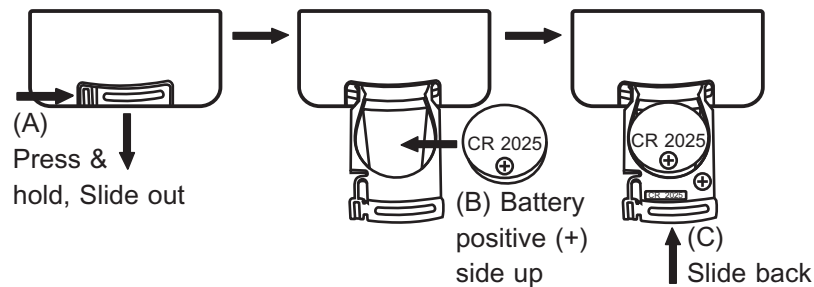

Fig. 30
4. Replacing USB Remote Battery, Fig. 30:
- (A) Press and hold the tenon on the bottom of the remote control and then slide out the battery tray.
- (B) Remove the old battery and insert the new battery in, making sure that the battery's positive (+) side is facing up.
- (C) Slide the battery tray back into the remote control until it clicks.
- (D) The remote control can function at distances of up to 5 meters. The remote control uses CR2032 lithium 3V coin battery.